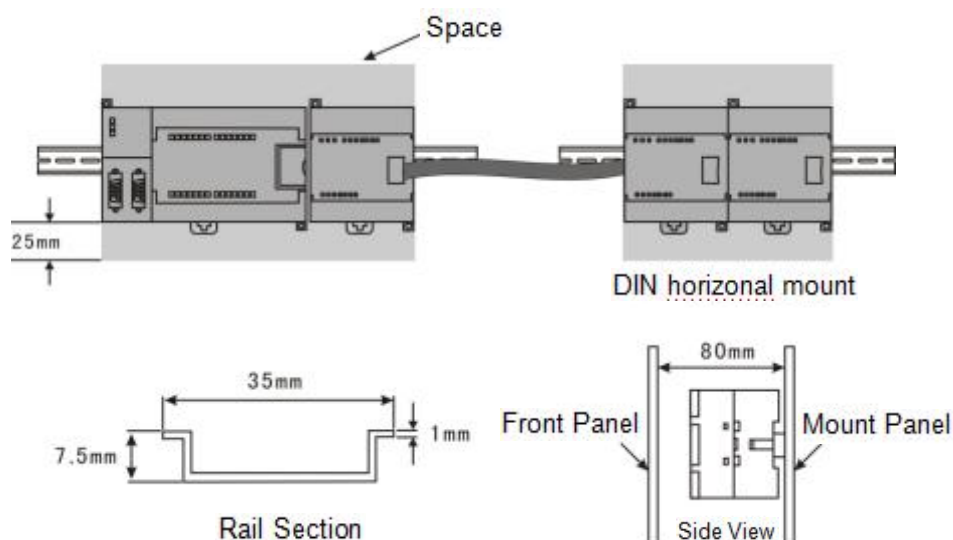

Figure 3-1 Installation diagram
- 1) Locate the open holes according to the dimensions on Figure 3-1 to 3-5